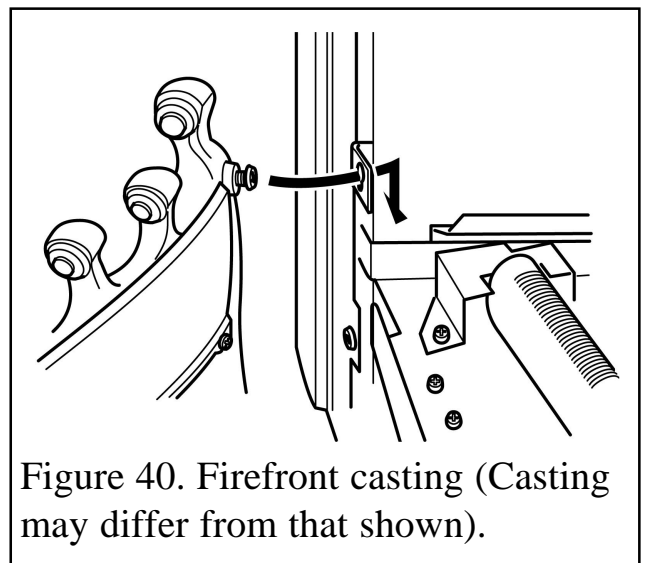

Figure 40. Firefront casting (Casting may differ from that shown).
14.2.1 Fit the fire front casting to the fascia. Locate the two screw heads at the rear top corners of the firefront casting through the keyhole slots at the inner sides of the fascia. If the screw heads do not project enough or project too far, the screws can be adjusted. Lower the casting so that it rests on the hearth (See figure 40).
14.5 Locate the two screw heads through the keyhole slots at the inner sides of the surround. If the screw heads do not project enough or project too far, the screws can be adjusted. Lower the casting so that it rests on the hearth (See figure 40).